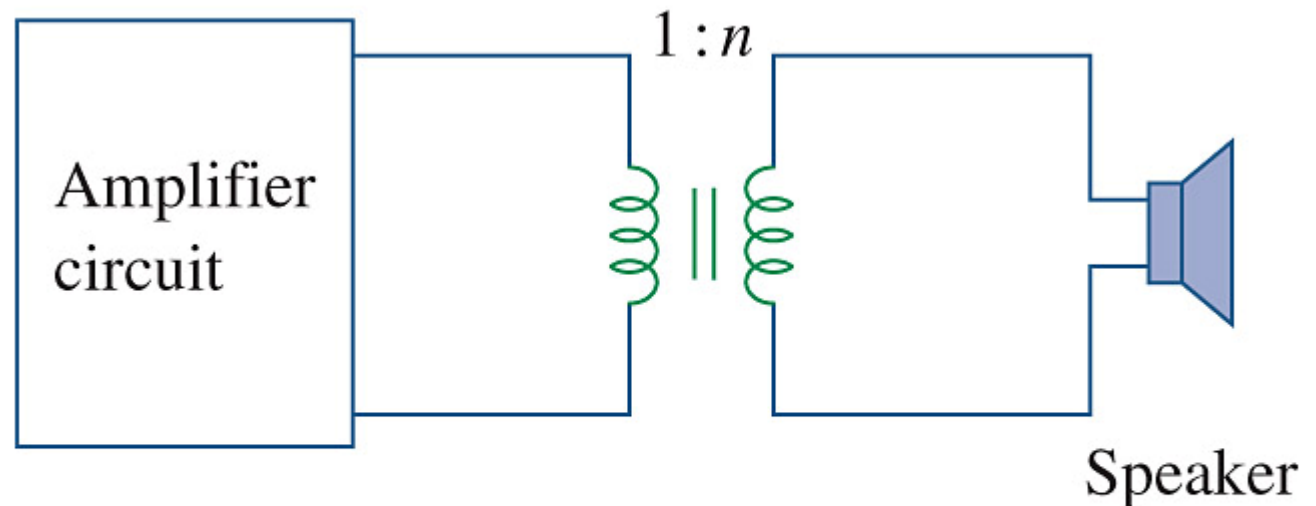

Figure 13.65 Using an ideal transformer to match the speaker to the amplifier.
**Example 13.16** Consider Fig. 13.65. The Thevenin impedance of the amplifier is  $192\ \Omega$ , and the impedance of the speaker is  $12\ \Omega$ . Determine the required turns ratio.